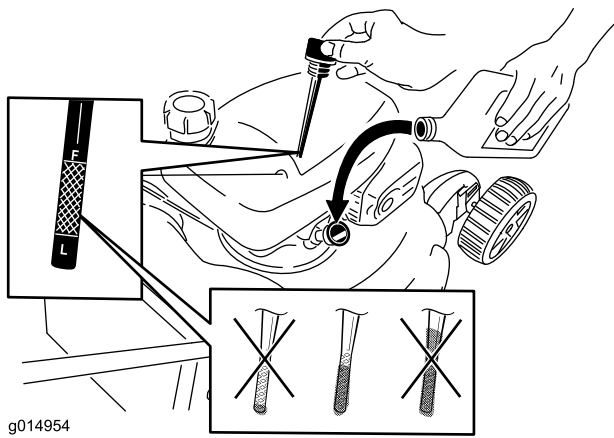

Figure 10
1. Remove the dipstick, wipe it clean, and fully install the dipstick (Figure 10).
2. Remove the dipstick and check the oil level (Figure 10). If the oil level is below the **Add** mark on the dipstick, **slowly** pour oil into the oil fill tube to raise the oil level to the **Full** mark on the dipstick. **Do not overfill.** (Max. fill: 19 fl oz (0.55 l), type: **SAE 30 automotive grade oil** with an API service classification of SL, SM, or higher. SAE 10W30 may be used if SAE 30 is not readily available.)